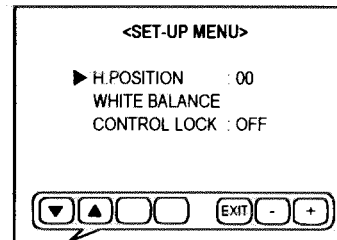

Fig.3
- 1)Press <MENU> and <PHASE> button simultaneously. The SET-UP MENU screen of Fig.3 will be displayed.